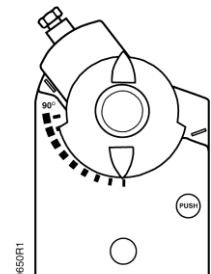

Figure 25.
- e. Place the position indicator to the **0** position on the outside scale. See Figure 25.